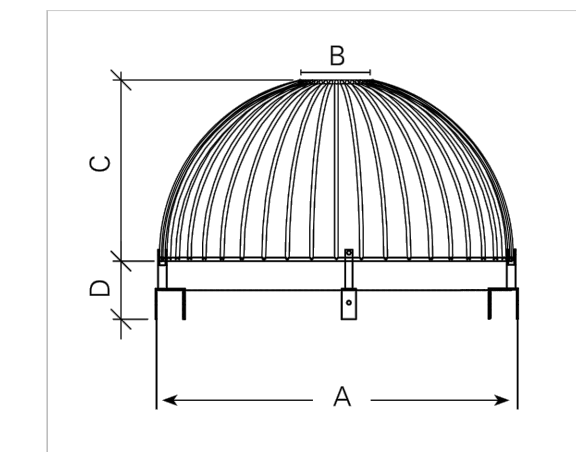

FIG. 1 Dimensions of Type 1 Hynds Scruffy Dome (see table).
- The type 1 debris screen is a full height design, suitable for manholes with a 600mm diameter or larger. (Refer to figure 1)